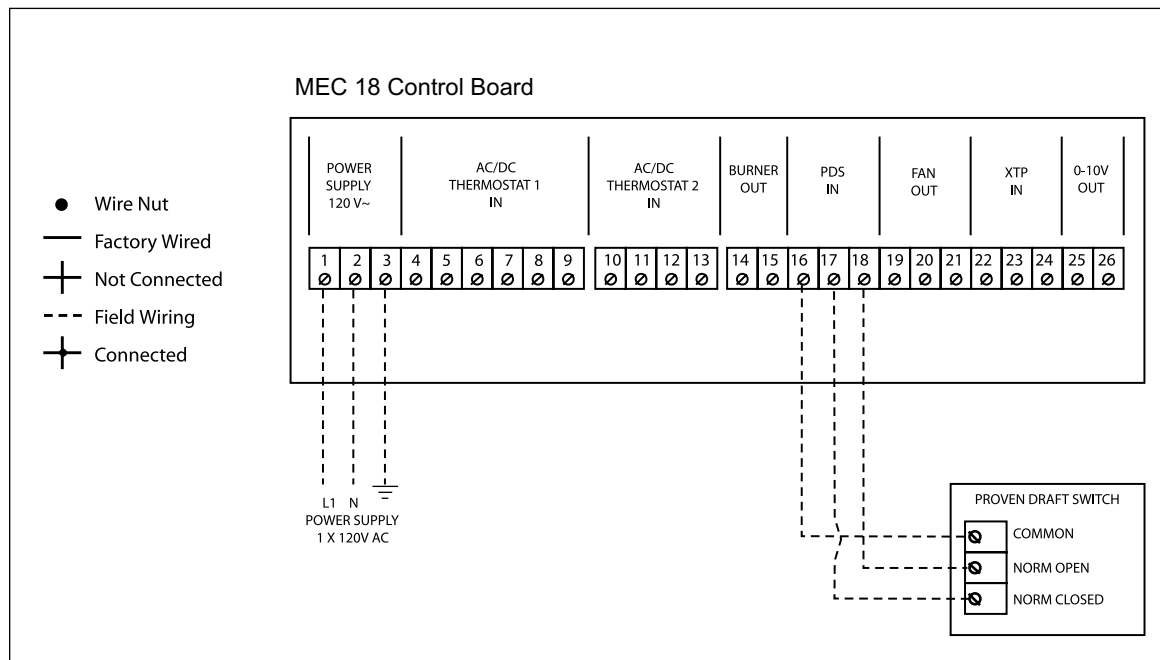

Fig. 12
Fig. 12 shows how to connect a external Proven Pressure Switch (PDS) to the MEC 18. The external PDS is a backup to the integrated PDS and both must be satisfied by sufficient pressure to release the appliance:
- Connect the switch to terminals 16, 17 and 18 as shown in Fig. 12.